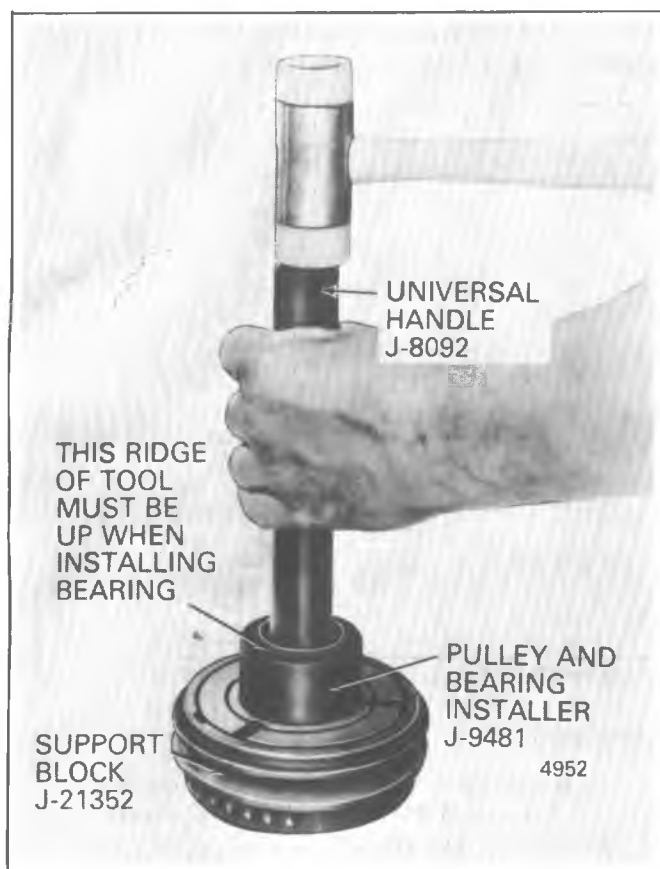

Figure 1D-17 Installing Bearing on A-6 Pulley
3. Remove coil housing retaining ring, using Snap-Ring Pliers J-6435 (#26) (Figure 1D-18).